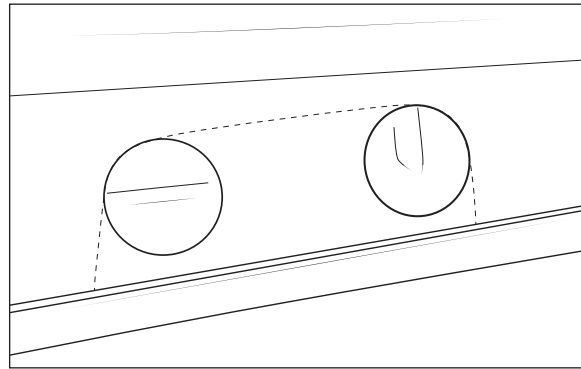

Figure 3
5. Use a pilot drill to drill ONLY the outer layer of the hood first, then use the 3" hole saw to carefully cut through ONLY the outer layer (fig. 3). Cut gradually and carefully so that the hole saw doesn't grab and move off center